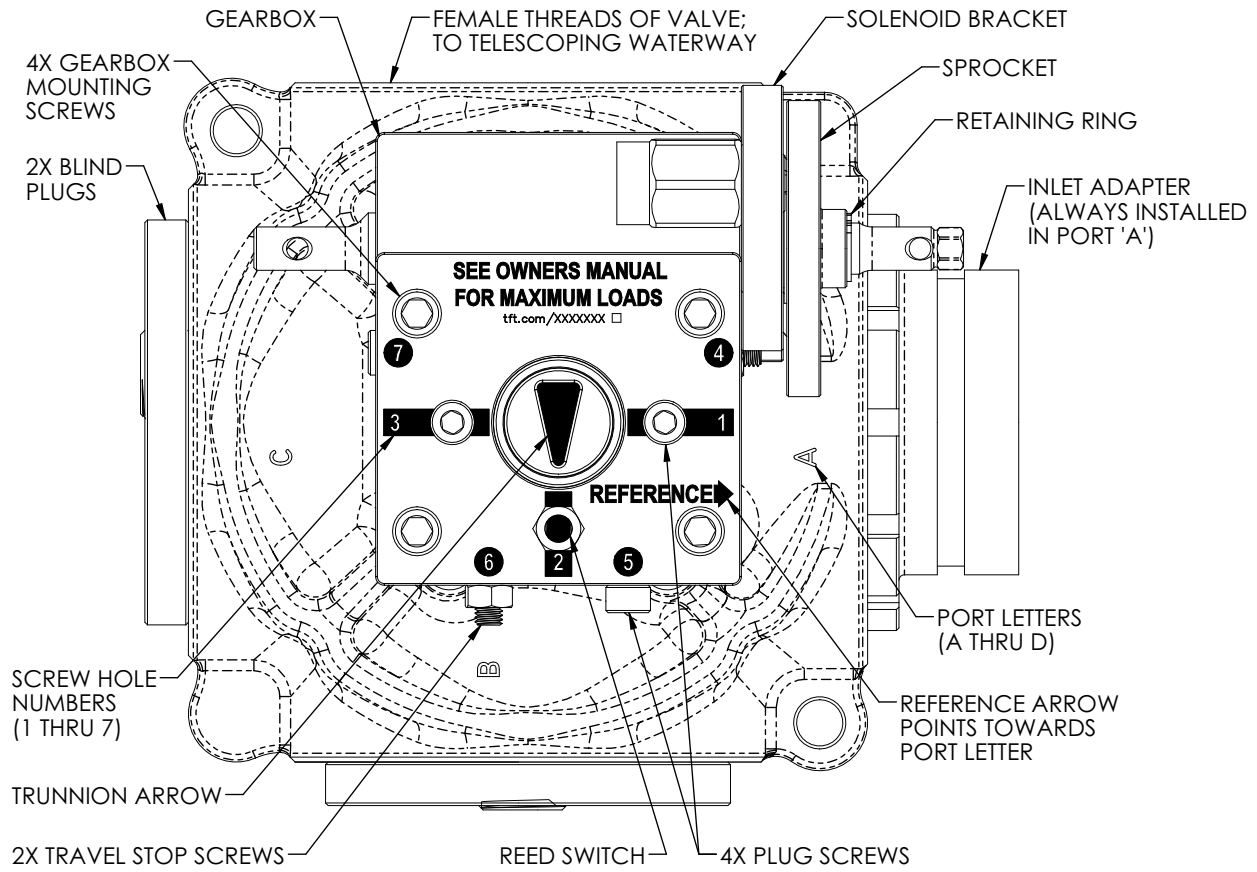

Figure 8.2A
First choose the Roman numeral subheading (I through V) that describes the directions the hand-wheel and inlet will face relative to the truck. Then, choose the configuration number (1 through 9) that describes the desired side of the truck the handwheel and gearbox will face. The four columns to the right will be referenced in the assembly instructions (see section 8.0) and Figure 8.2A Valve Components.
1. Find the desired valve configuration number in Table 7.6. With the valve on a workbench, examine it and make changes as needed according to the following steps. Any step may be skipped if that aspect of the desired configuration already matches the physical unit. Refer to Figure 8.2A to identify the components of the valve and gearbox.